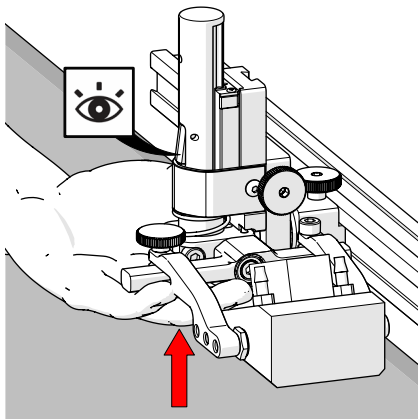
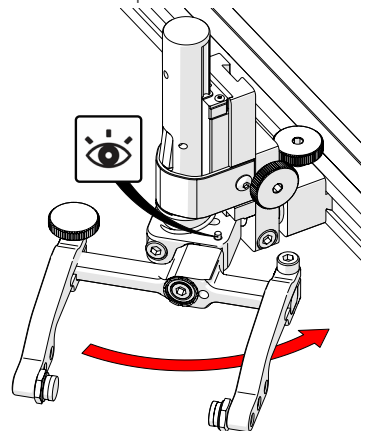

Fig. 83 - Latch probe holder
Fig. 89 - Stop post locates 90°
until the latch is fully exposed and snaps out to lock (Fig. 83).
1. Ensure the probe holder is in the latched upper position (Fig. 83).
To return the transverse adjustment to neutral (90°). The probe holder must be in the latched, upper position (Fig. 83). Rotate the yoke until the stop post contacts the base of the probe holder (Fig. 89). Then tighten the transverse adjustment screw.
- Ensure the probe holder is in the latched upper position (Fig. 83).